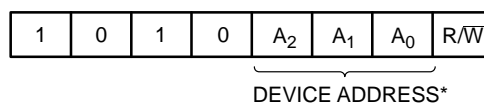

Figure 3. Slave Address Bits
The Master addresses a Slave by creating a START condition and then broadcasting an 8-bit Slave address. For the CAT24C64B, the first four bits of the Slave address are set to 1010 (Ah); the next three bits, A2, A1 and A0, must match the logic state of the similarly named input pins. The devices in WLCSP 4-bumps respond only to the Slave Address with A2 A1 A0 = 000. The R/W bit tells the Slave whether the Master intends to read (1) or write (0) data (Figure 3).